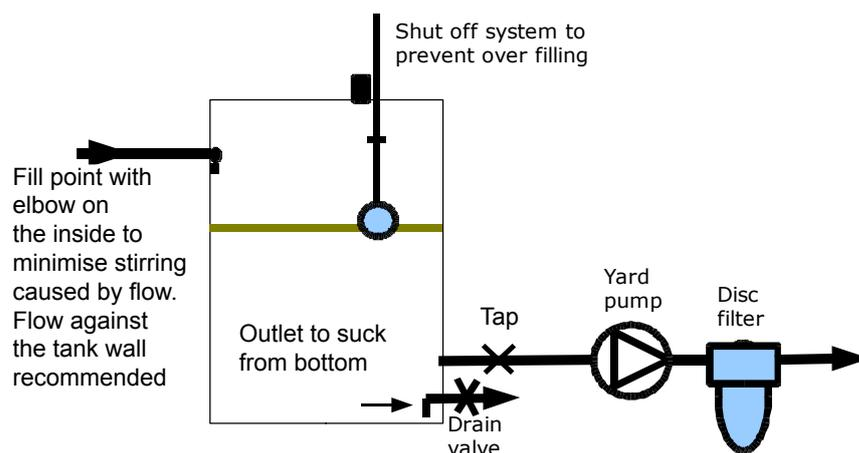

FIGURE 4: Greenwater Holding Tank
- The holding tank should be plumbed to allow sediment drainage, it is necessary to fit an elbow as shown in figure 4.